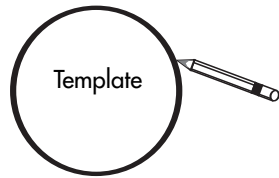

Figure 8
- Using the supplied template, trace the installation location with a pencil. You can do this by holding the template in your preferred location and tracing around it. In the case of the rectangular models (Di 5.5S and Di 6.5S) use a bubble level to square and level the template. [Figures 8 & 9]